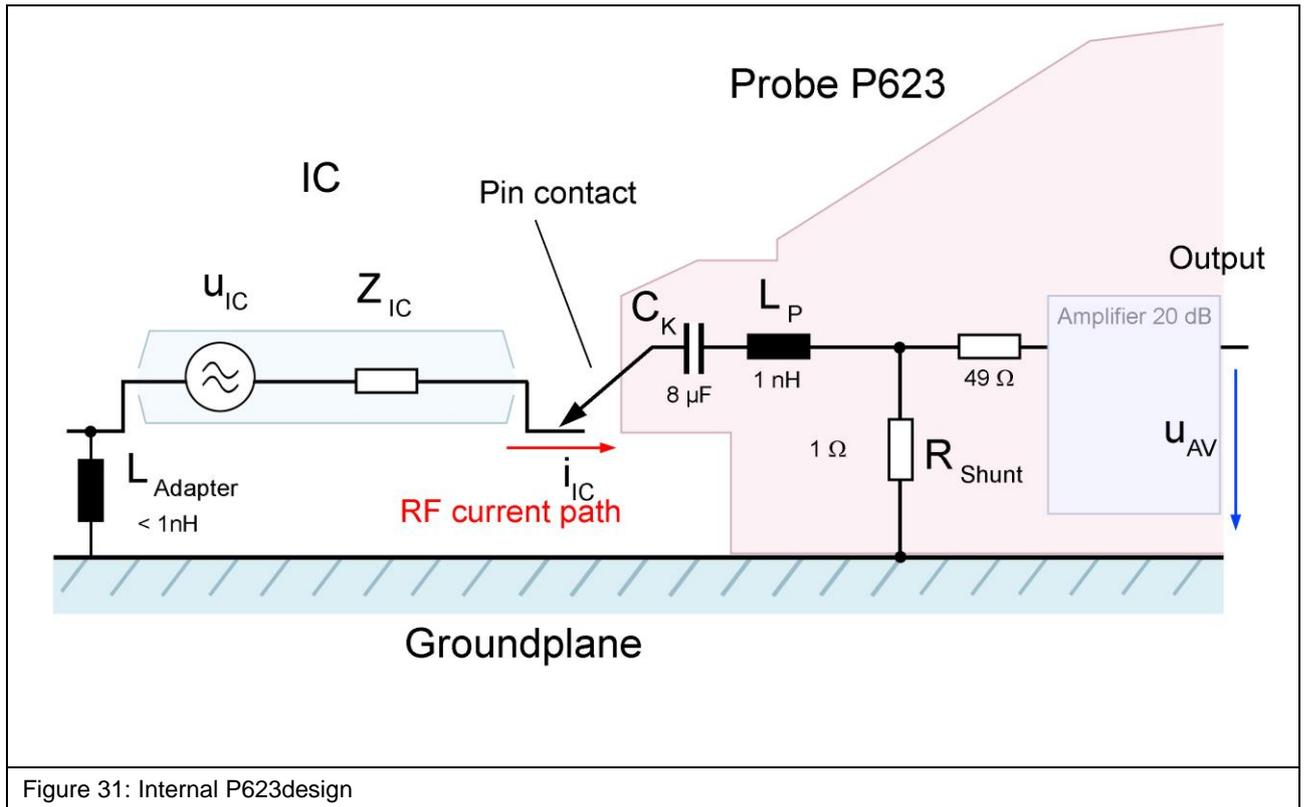

Figure 31: Internal P623design
**Figure 31** shows the equivalent circuit diagram of the **P623** probe. The current probe head comprises a 1 Ohm shunt, 49 Ohm matching resistor and 8 μF coupling capacitor.